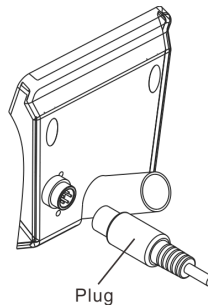

Fig4
- 3) Wind the cable line of the search coil around the aluminum stem to suitable and average tightness so that the cable line does not sway. Insert the plug of the cable line to the socket on the bottom right of the Controller (See Fig.4), and lock it. Note: when plugging and unplugging, please unplug the plug instead of unplugging the cable line.